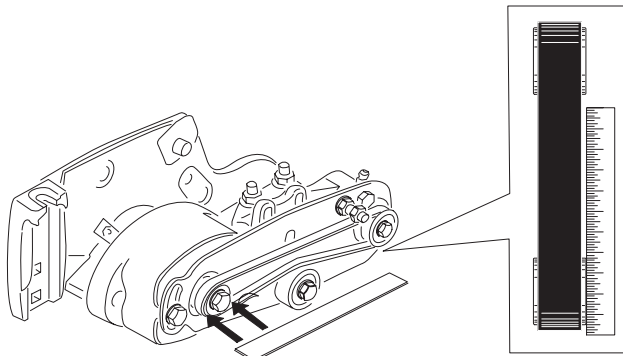

Figure 29
- Lay a straight edge along the outer face of the **drive** pulley (Fig. 29). **Do not** lay the straight edge across both the drive and driven pulleys.